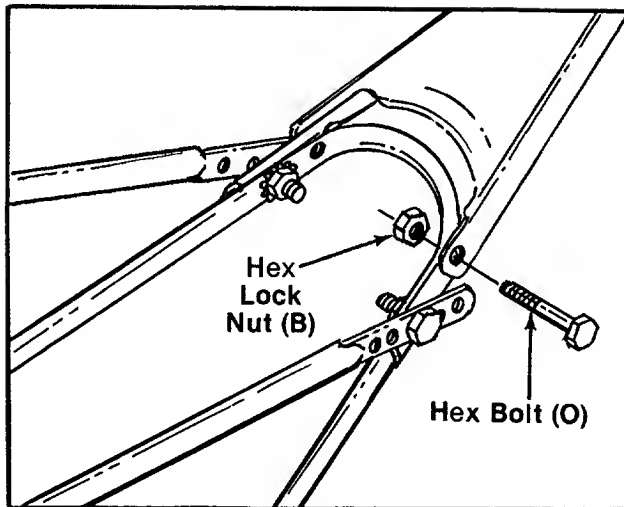

FIGURE 5.
4. Secure handle panel, upper handle and lower handle with hex bolts (O) and hex lock nuts (B) as shown in figure 5.